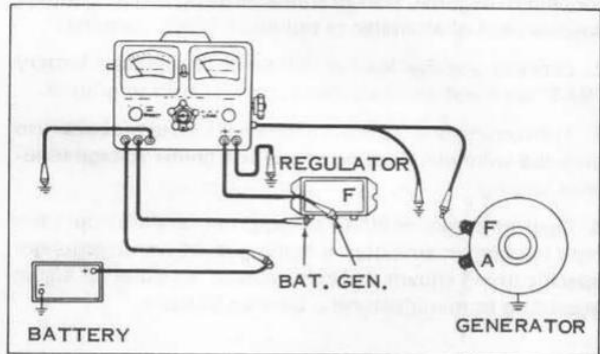

Figure 5-32.
B. TESTER CONNECTIONS (See Figure 5-32)
(Figure 5-32)
Use same tester connections as previous Test C. (Figure 5-32)